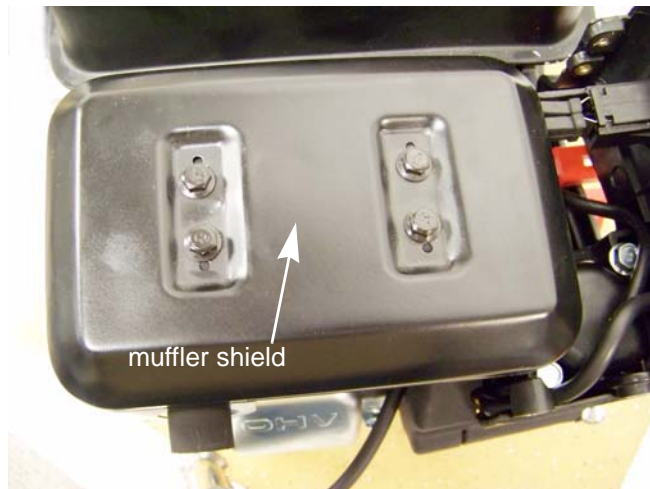

Figure 8.7
2. Remove the four screws securing the muffler shield using a 10mm wrench and lift it off of the engine. See Figure 8.7.